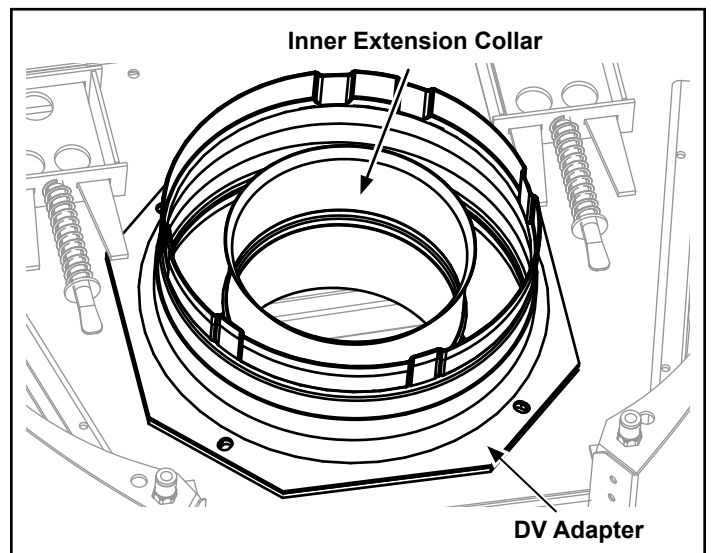

Figure 8.8
Gas line and power cord are shipped inside back panel. To access the gas line and power cord, remove the top plate from the appliance. Remove and retain the two Allen head screws that hold the back panel in place. Refer to Figure 8.8.
4. Remove the four screws from the DV adapter collar. (Figure 8.8) Set aside DV adapter collar, gasket and screws.
5. Remove the inner extension starter collar (Shown in Figure 8.8) and set aside.